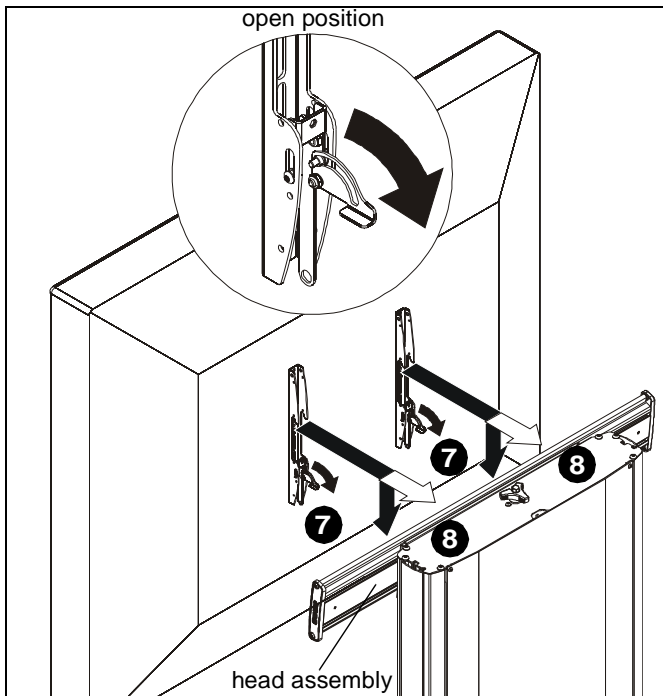

Figure 7
7. Position latches on interface uprights so that they are in the "open" position. (See Figure 7)
8. Hang interface uprights (B) on head assembly. (See Figure 7)